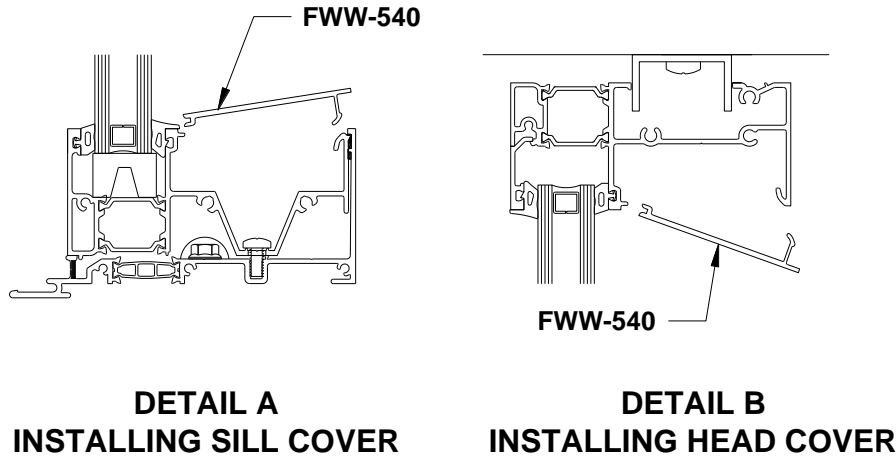

Figure 85: Cover Installation
26.1.1 At the Sill, snap **FWW-540** Sill Cover into place, *Figure 85, Detail A*.
26.1.3 At the Sill, snap **FWW-540** Sill Cover into place, *Figure 85, Detail A*.
26.1.4 At the Head, snap **FWW-540** Head Cover into place, *Figure 85, Detail B*.